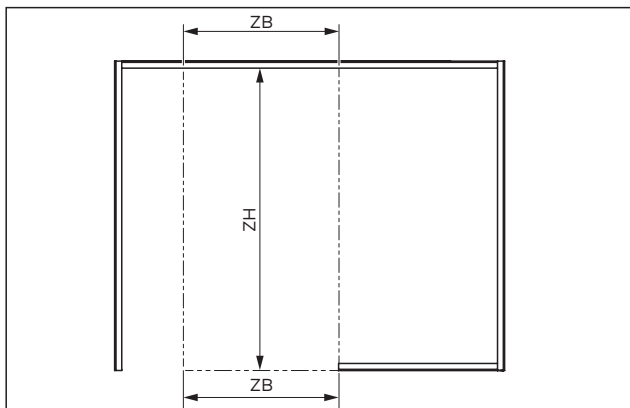

Fig. 17 Example of the dimensions for installing the door frame at the assembly location
- Match the dimensions for the door frame's installation from the project-related unit drawing with the assembly location (Fig. 17).